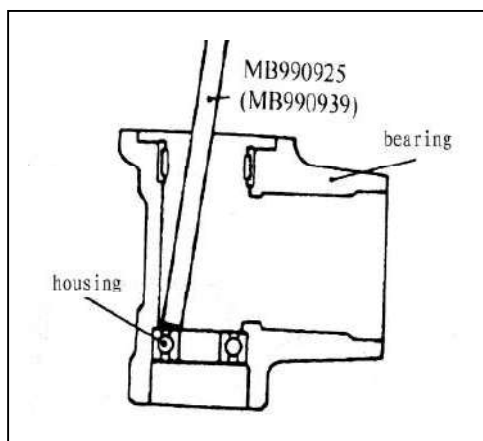

Fig 17-30
7) LOWER BEARING REMOVAL(See fig 17-30)